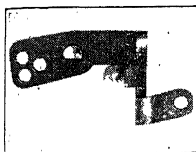

Fig. 153. Accelerating Pump Plunger Arm
**Accelerating Pump Adjustment.** The lever which operates the accelerating pump plunger arm, Fig. 153, is provided with three adjustments or settings. Medium stroke is the correct setting for ordinary temperatures and standard gasoline. Short stroke is for use in extremely hot climates, at high altitudes, or with high test fuel. The long stroke is for use in extremely cold climates. To set this pump arm lever, it is necessary to remove the cover from the top of the accelerating pump. When this cover is removed, the countershaft that operates the accelerating pump should be lubricated with graphite grease. To do this, fill the cover screw hole with the grease.